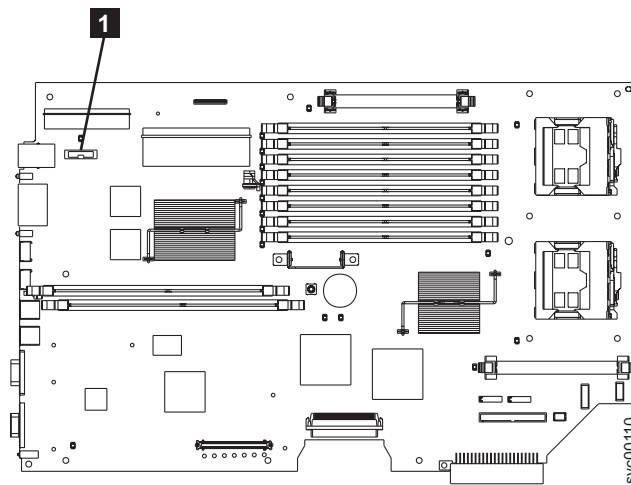

Figure 148. Location of the CMOS battery on the SAN Volume Controller 2145-8F2 or the SAN Volume Controller 2145-8F4
1. Insert the new battery in the battery socket. Figure 148 shows the location (**1**) of the battery socket.